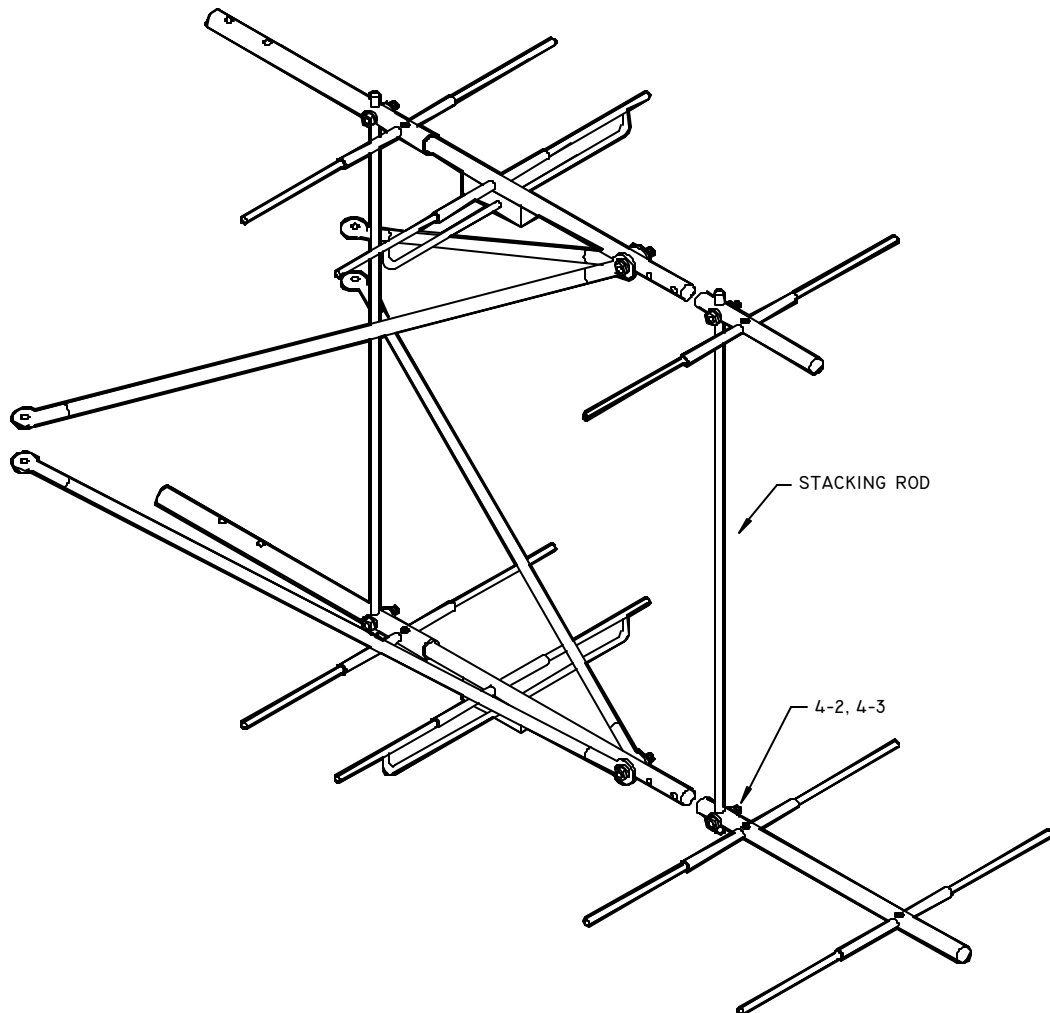

Figure 4
- a. Install the vertical spacing rods through the booms using provided hardware. See Figure 4.
- g. Standard hardware is for 1-1/2" O.D. mast. Oversize hardware for 2", 2-1/2", 3-1/2" and 4-1/2" O.D. masts are available. See Figure 4, page 6-10.